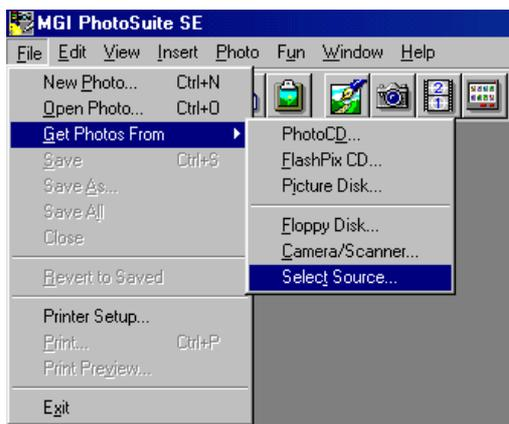

Figure 25: Selecting the source
2. Click on 'Work on your Own'. The main window for MGI PhotoSuite will appear (see figure 25).